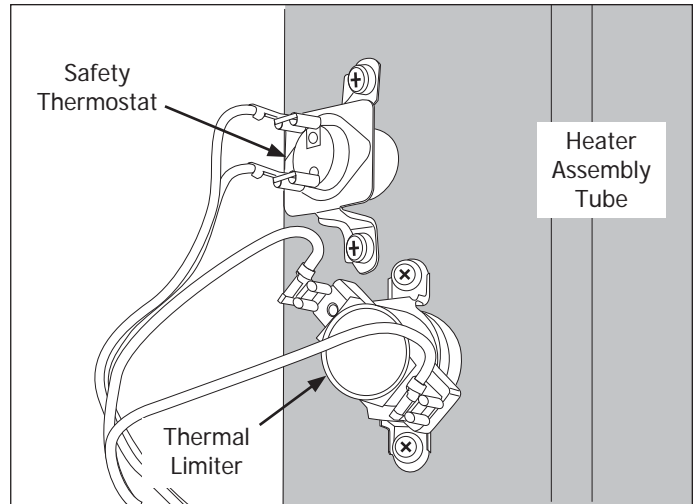

Figure 4-40.
3. Using a #2 square bit screwdriver, extract the screws securing the sensors to the combustion tube. (See Figure 4-40)